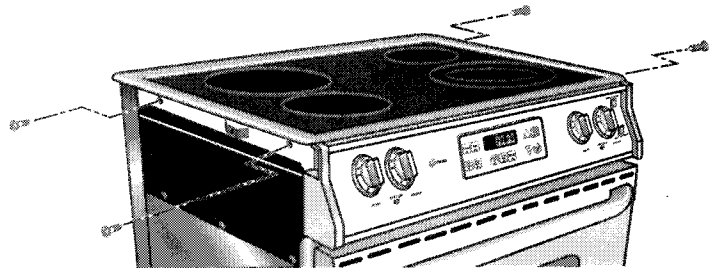

Fig. 20
2. Remove the four (4) screws securing the cooktop to the unit frame. (Fig. 20)